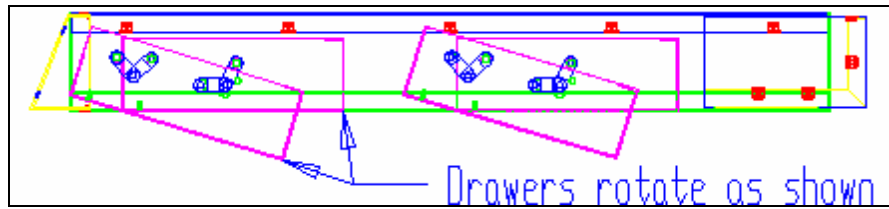

Figure 1 Side view of 048 console
- ✓ Use the (3) U-bolts, 5/16 washers, and locknuts provided to fasten the rear sliding assembly (now slid partially inside main body) to the rollbar.
6. Mount the drawers into the openings in the main body assembly. Be sure that the links inside the console are "resting" so that the holes line up with the holes in the body. It is important to place a piece of cardboard under the drawer to prevent scratching during installation. If the drawer is pushed up into the opening in the main body assembly in the approximate orientation of the open drawer in Figure 1, the holes in the body, link, and drawer will line up and (4) ¼-20x3/8" socket head cap screws can be installed using the 3/16" allen wrench. Note, only fasten each drawer with the two links toward the front of the vehicle, **DO NOT** fasten the links toward the rear of each drawer.
7. Mount stereo, CB, and/or speaker in drawer(s). Be sure to secure wires to side holes on the rear side of the drawer with (1) zip tie per drawer(provided) to ensure wires will not snag onto anything.
8. Attach the stereo to the drawer using the stereo support strap and (1) 10-32 flat washer and (1) 10-32 locknut.
9. Attach supply wires to stereo and/or CB wires. Route the wires by attaching them to the studs on the top of the console with (3) zip ties provided and (3) 8-32 locknuts along with the 11/32 wrench or socket. Use remaining (3) zipties to bundle wires together. **Warning!** Wires must be routed so that they do not interfere with the opening of the drawer or the operation of the cam. Be sure wires will not be pinched. Leave enough slack in the wires so that the drawers will be able to move freely. Refer to Figure 1 and note how the drawers move relative to the body.
10. Install the footman loop, you removed from the front windshield, into the nuts that have been pressed into the main body assembly just behind the rear drawer opening. Use the (2)10-32x3/8 flat slotted screws and the screwdriver for installation. This footman loop will act as an anchor point for installing and securing a "Bikini" top.
11. Notice that the $\frac{1}{2}$ " holes in the side of the main body will line up with the holes in the links when the drawer is in the open position and the links are resting against the studs in the console body, see Figure 1. Use (4) $\frac{1}{4}$ -20x3/8 socket head cap screws provided to fasten the link to the drawer. Tighten the screw all the way and then back it off 3/8 to 1/2 of a turn. Follow this procedure until the drawer is fastened and in place. **Warning!** The nuts inserted in the drawers are self-locking. The socket head cap screws will be difficult to screw in because of this feature. Do not cross thread screws.
14. Insert (8) $\frac{1}{2}$ " hole plugs in holes on main body.